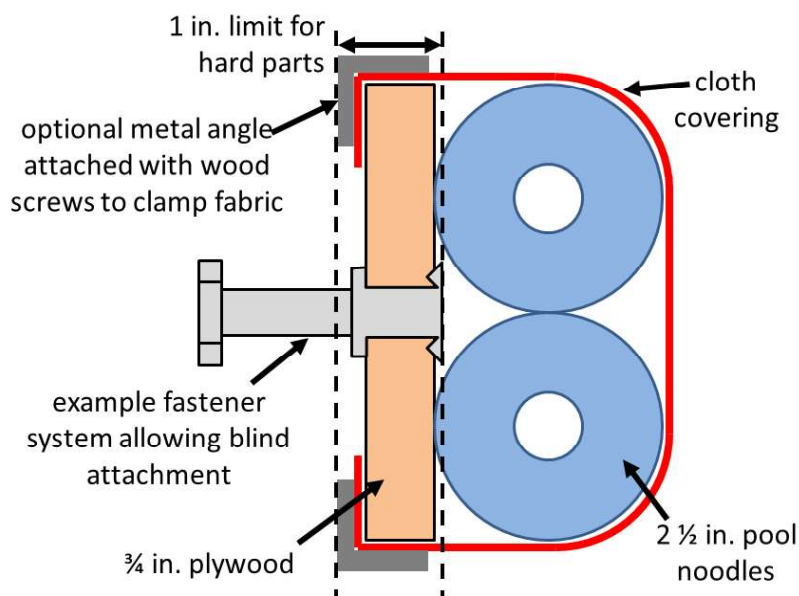
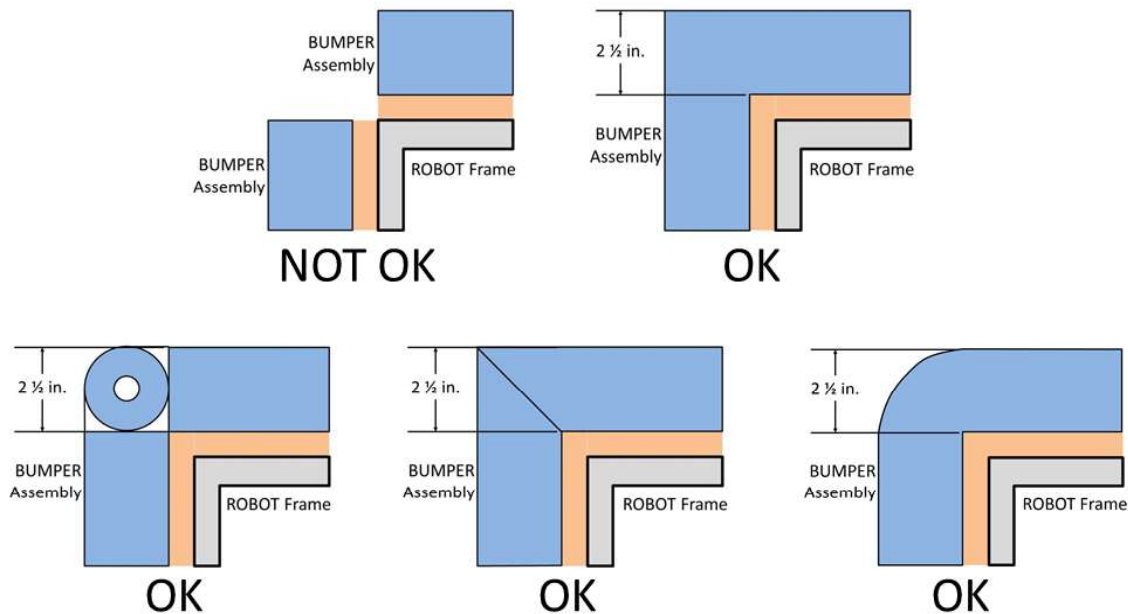

Figure 9-6 BUMPER Vertical Cross Section
Figure 9-7 Soft Parts of BUMPER Corners
- R24.** BUMPERS must be constructed as follows (see Figure 9-6):
- C.** use a stacked pair of approximately 2½ in. (nominal, ~63mm) round, petal, or hex “pool noodles” (solid or hollow) as the BUMPER cushion material (see Figure 9-6). All pool noodles used in a BUMPER set (e.g. Red set of BUMPERS) may not be modified (with the exception of cutting to length or cutting to facilitate mating pool noodles at the corners as required by R25) or deformed and must be the same diameter, cross-section, and density (e.g. all round hollow or all hex solid). Cushion material may extend up to 2½ in. (~63 mm) beyond the end of the plywood (see Figure 9-7). To assist in applying the fabric covering, soft fasteners may be used to attach the pool noodles to the wood backing, so long as the cross section in Figure 9-6 is not significantly altered (e.g. tape compressing the pool noodles).
- D.** be covered with a rugged, smooth cloth. (multiple layers of cloth and seams are permitted if needed to accommodate R21 and/or R22, provided the cross section in Figure 9-6 is not significantly altered).
- E. optionally use metal angle, as shown in Figure 9-6 or other fasteners (e.g. staples, screws, adhesives, etc.) to clamp cloth.
R25. Corner joints between BUMPERS must be filled with pool noodle material. Examples of implementation are shown in Figure 9-7.